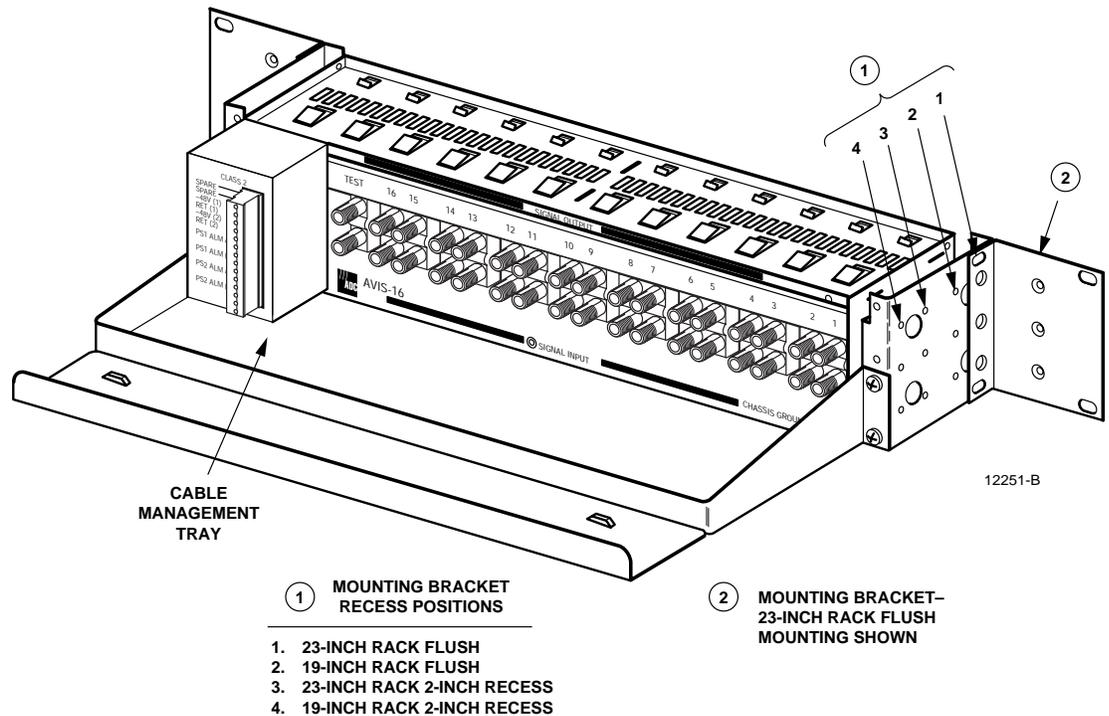

Figure 12. PWR-AVIS Chassis with Mounting Positions
1. Determine rack location, mounting space width and recess position. See Figure 12.
5. Attach the cable management tray to the rear of the chassis. See Figure 12.